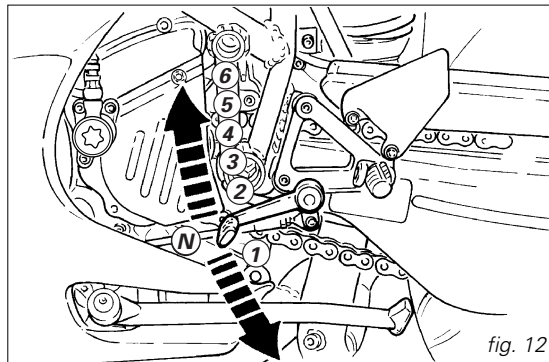

fig. 12
**Gear change pedal** (fig. 12)